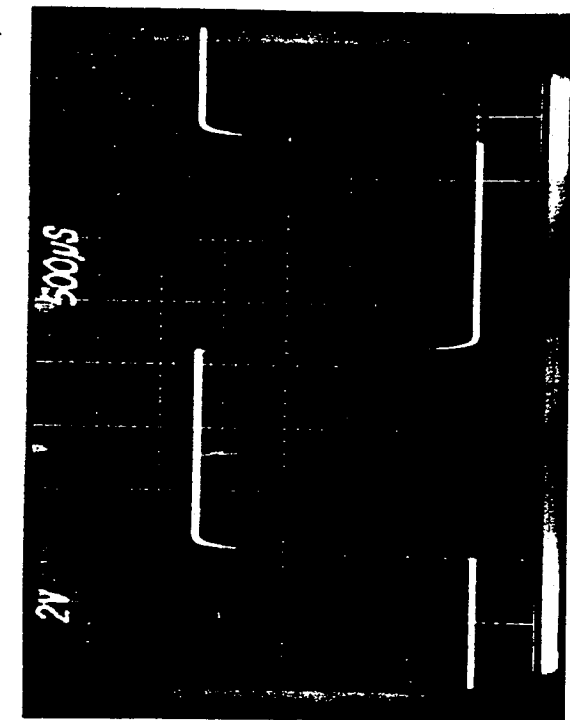

Figure 5-13
7. Check the signal "S"; it should be approximately as shown in Figure 5-13.